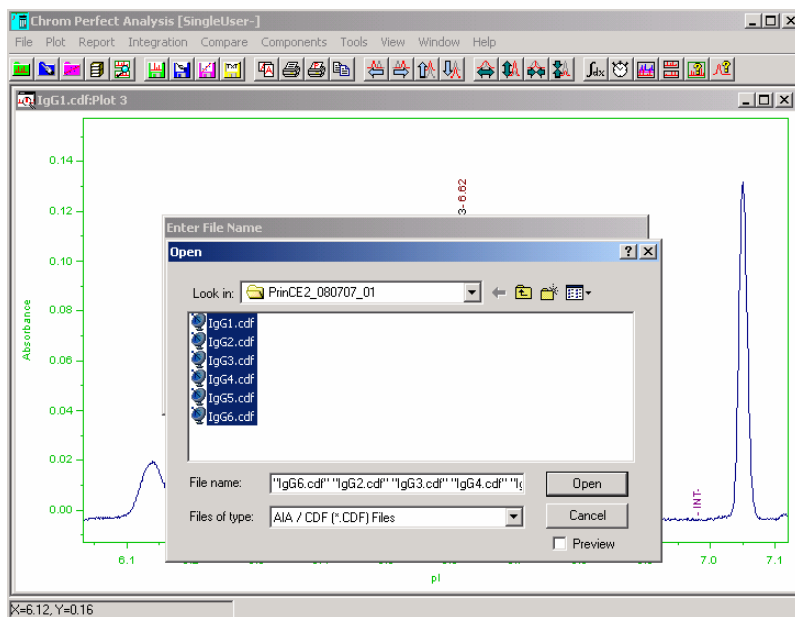

Figure A-37: Opening Six Data Files
4. Use browse button (...) at the right side of the window to browse from a directory of data files as shown in Figure A-37.